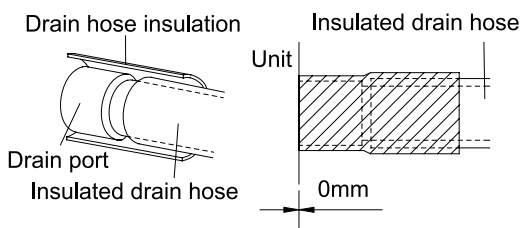

Figure 3-1-13
- (13). Be sure to insulate where the drain port and the drain hose is connected.(Figure 3-1-13)